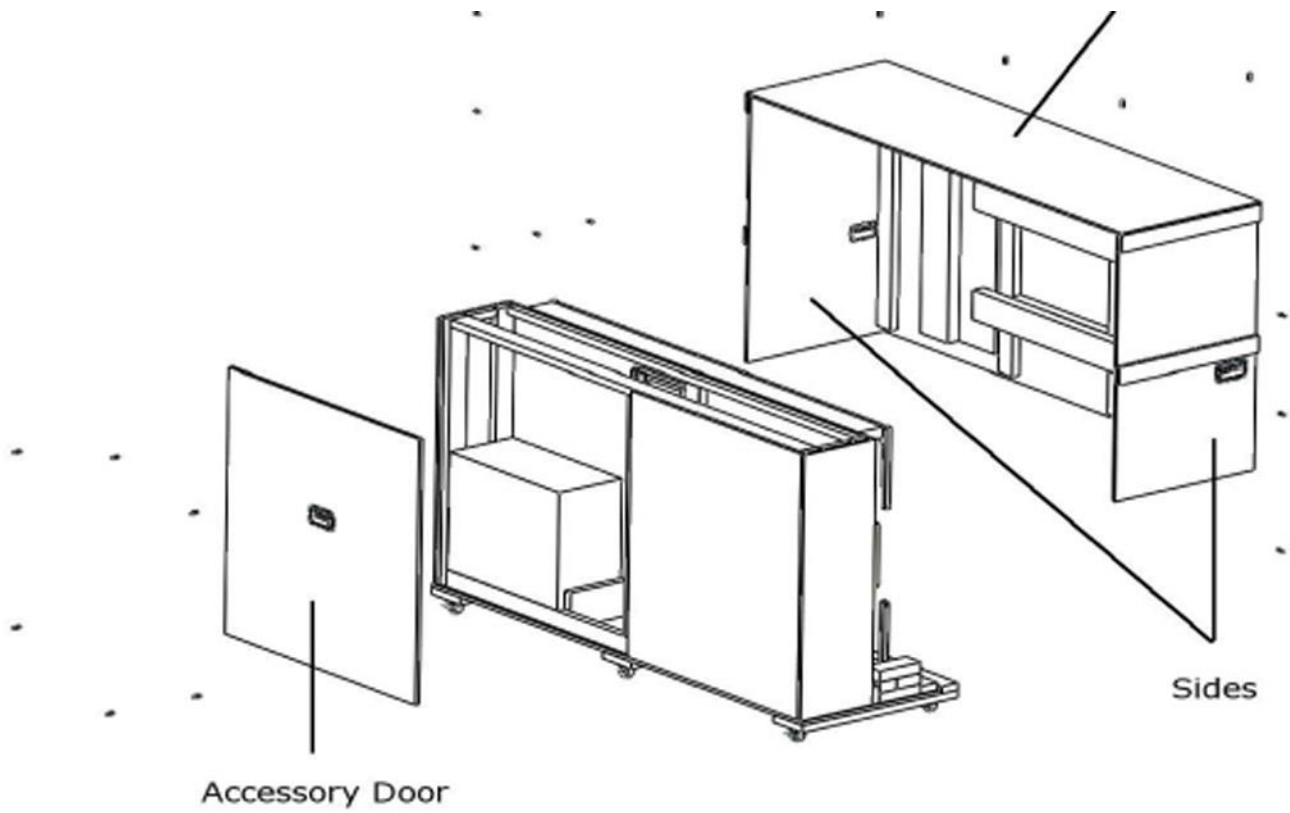

Figure 3. Screws shown in exploded view
2. Use the cordless drill to remove all screws on the exterior of crate. Figure 3 shows the screws on the top, sides, and accessory door.